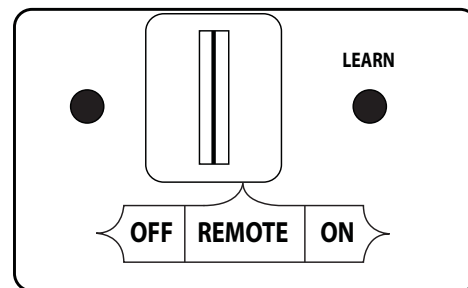

Fig. 21-2 Remote receiver (OFF for Manual Light)
1. Ensure the pilot is burning. If equipped, locate the 3-position switch on the remote receiver (see Fig. 21-2), and slide the switch to the **OFF** position.